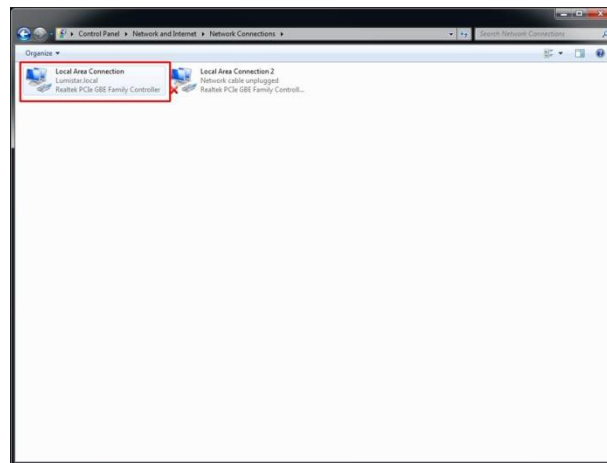

Figure 3-7 Windows Network Connections Page
Step 5: The Network Connections window shows the available connections the target host can use. Right-click on the local area connection attached to the LS-16C and select “Properties”. See Figure 3-7.